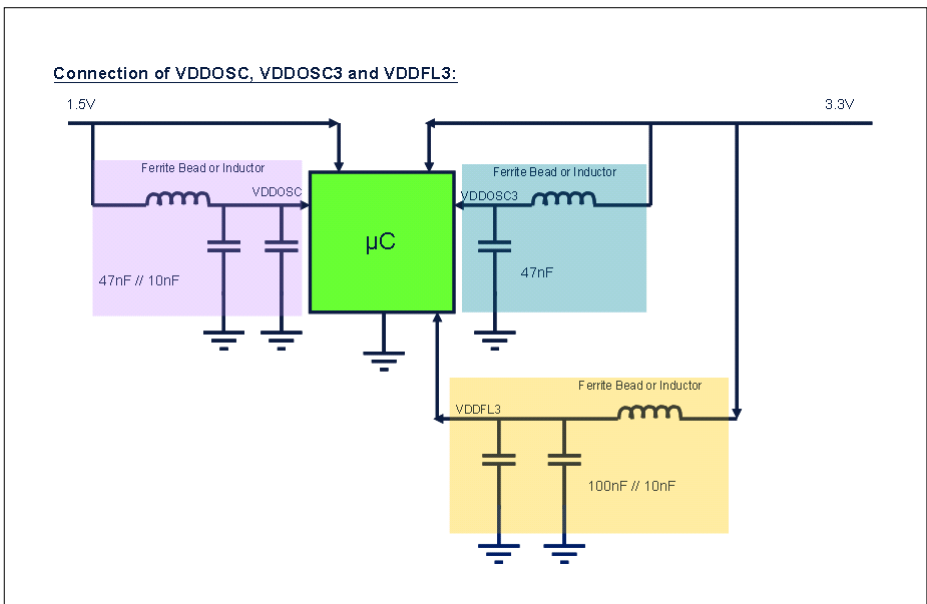

Figure 2 Filtering of VDDOSC, VDDOSC3 and VDDFL3 supply pins
- Inductance/Ferritebeads on supply paths L $\sim 10\mu\text{H}$ /1A (at regulator output and at the branching to the other module supply pins like VDDOSC, VDDOSC3, VDDFL3...see Figure 2).